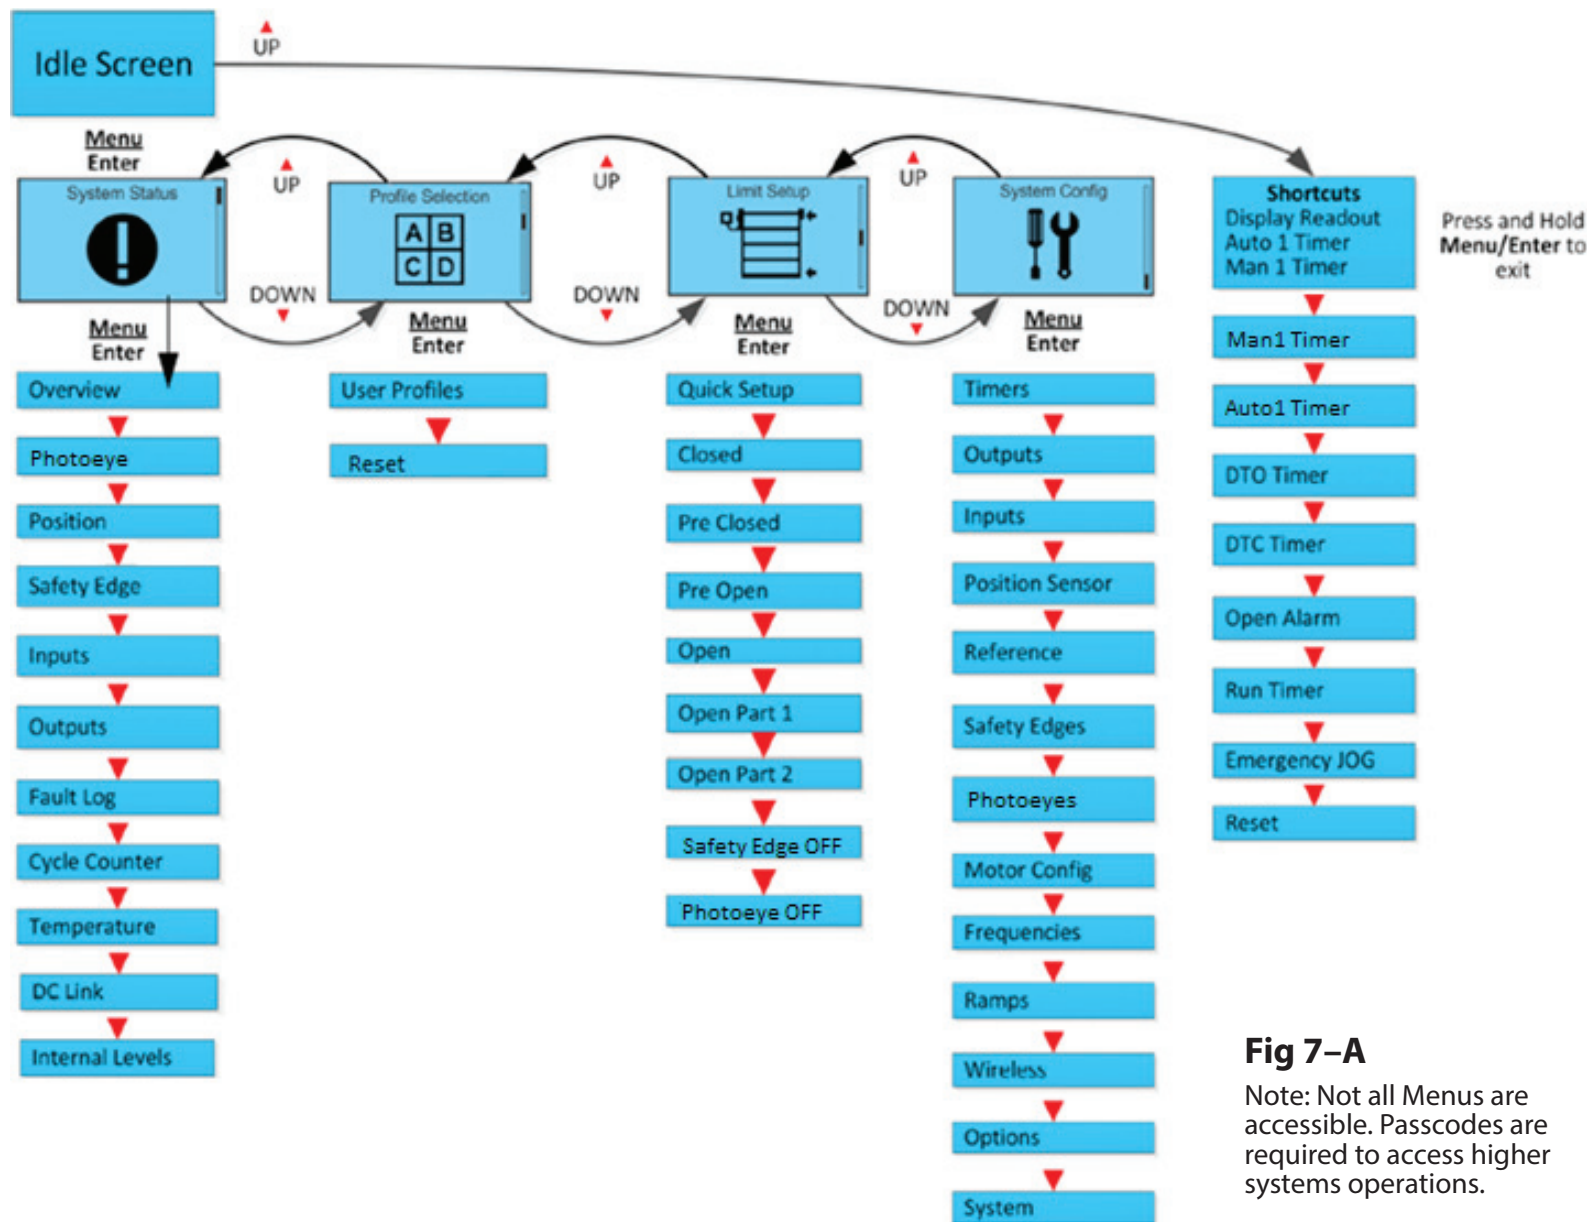

Fig 7-A
A. To enter the Menu, press and hold the OPEN, STOP, CLOSE membrane buttons for 3 seconds. A count down timer on the top left corner of the LED screen will display the remaining time left to hold. Refer to **Fig 7-A** pg 26 for the complete menu structure.